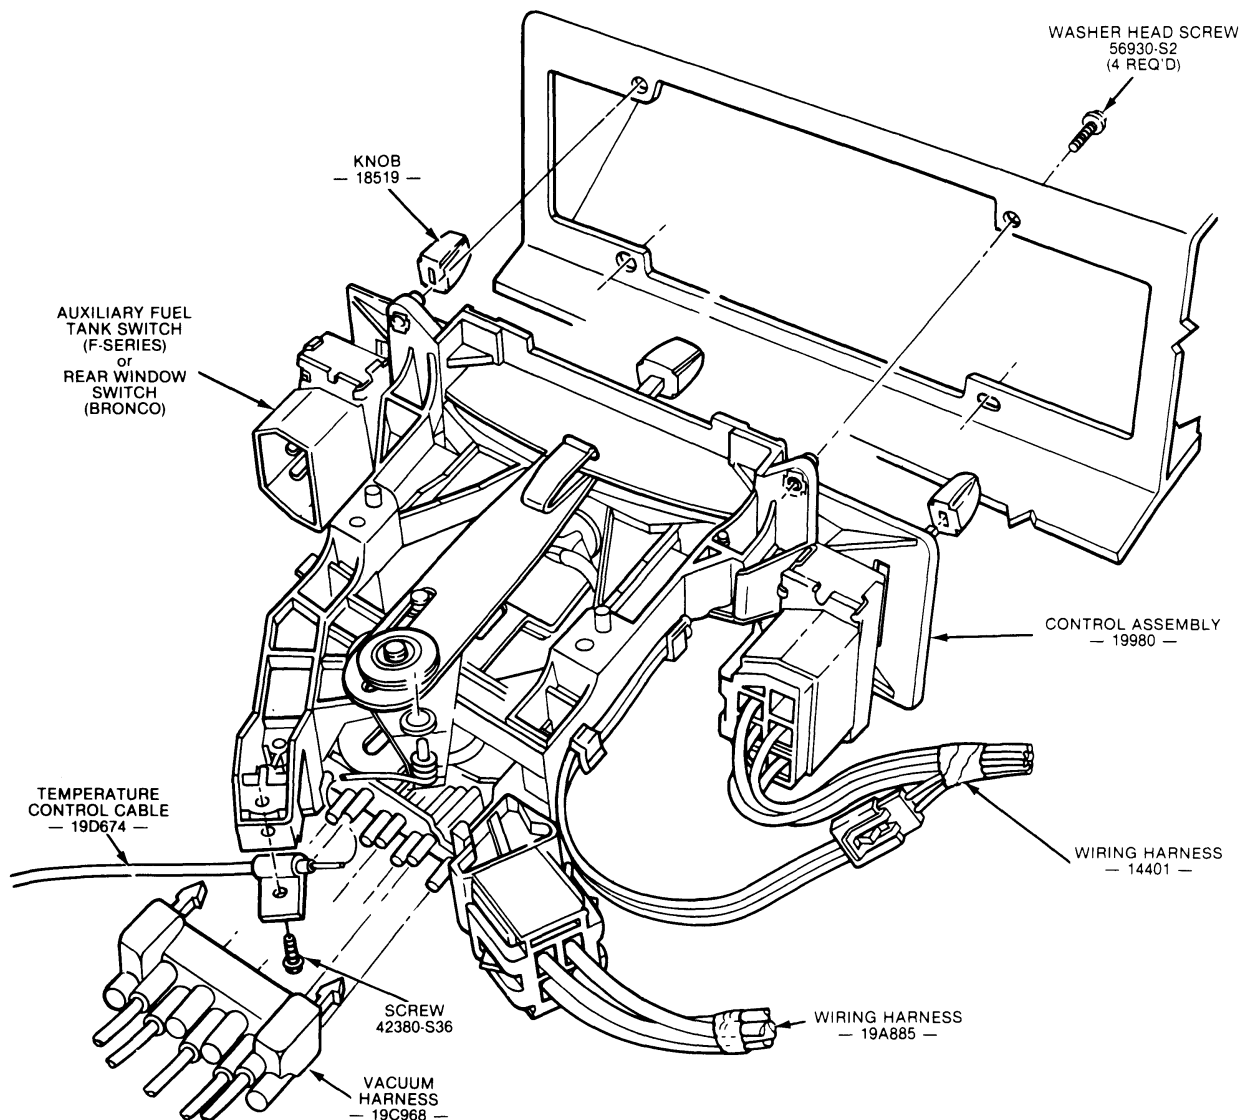
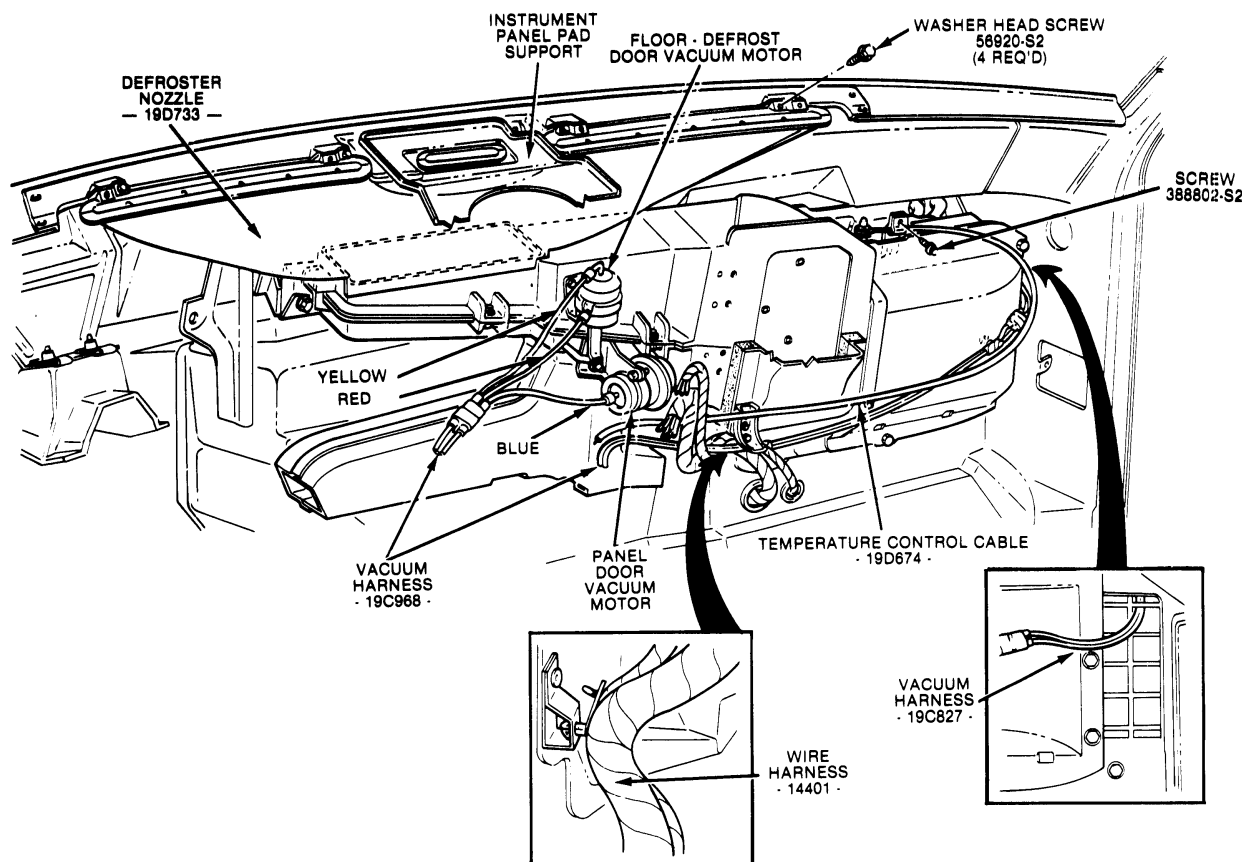

Fig. 6 — Comfort Vent Heater Control Assembly Removal
Fig. 8 — Control Cable and Vacuum Hose Routing
5. Remove the four (4) control assembly attaching screws (Fig. 6).
8. Remove one (1) screw attaching the temperature cable housing to the control assembly.
5. Remove four control assembly attaching screws (Fig. 6).
2. Working through the glove compartment opening, remove one (1) screw attaching the temperature cable to the cable bracket on top of the plenum (Fig. 8).
5. Remove two (2) screws attaching the top of the instrument panel center finish panel to the instrument panel pad and remove the finish panel.
7. Remove four (4) control assembly attaching screws.
temperature cable housing to the control assembly (Fig. 6). It may be necessary to disconnect the vacuum and wire harnesses from the control assembly to position the control assembly for removal of the cable attaching screw.
1. Connect the temperature cable to the temperature lever arm of the control assembly with the cable pigtail up away from the arm (Fig. 6). Then, install the spring nut to retain the cable on the arm.
3. Position the control assembly to the instrument panel opening and install the four (4) attaching screws. Connect the vacuum and wire harnesses to the control assembly if it was necessary to disconnect them during removal.
5. Position the center finish panel to the instrument panel and install the two (2) attaching screws.
7. Route the temperature control cable as shown in Fig. 8 and connect the pigtail to the temperature door crank arm with the pigtail pointing up away from the bend in the crank arm. Then, install the spring nut to retain the cable on the door crank arm.
6. Remove four (4) screws attaching the defroster nozzle to the instrument panel pad support (Fig. 8).